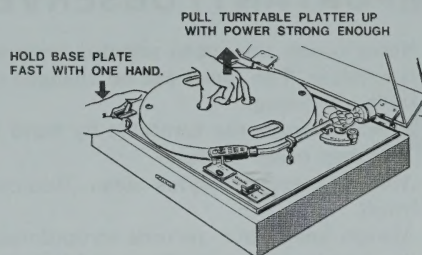

Fig. 18
3. Pull the turntable platter upward with two fingers inserted into the turntable platter's two openings. See Fig. 18.